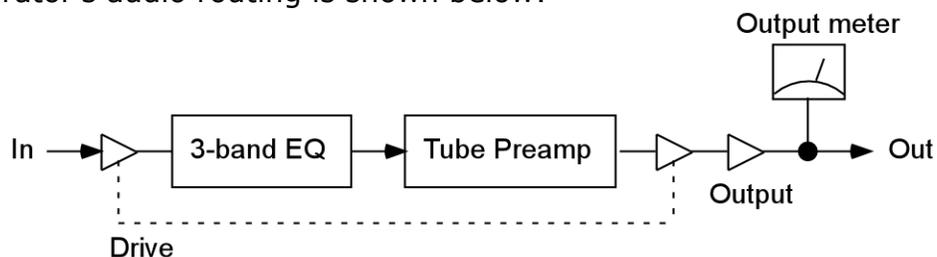

Figure 4-2. Tube Saturator audio routing.
**Drive** — The Drive parameter simultaneously controls the input and output gains around the Tube Saturator circuit, as shown in Figure 4-2. At low drive levels, increasing the drive increases the input gain and also decreases the output gain. At higher drive levels where the tube preamp is already saturating and hence limiting the output, increasing the drive simply increases the input gain. The idea is that the drive control sets the amount of distortion while keeping the level roughly constant. However you may still need to adjust the output gain.